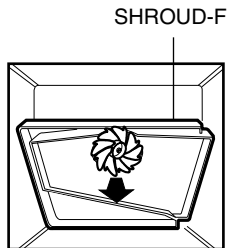

Figure 13
1. Pull out the shroud-F after removing the Grille Fan. (Figure 13)